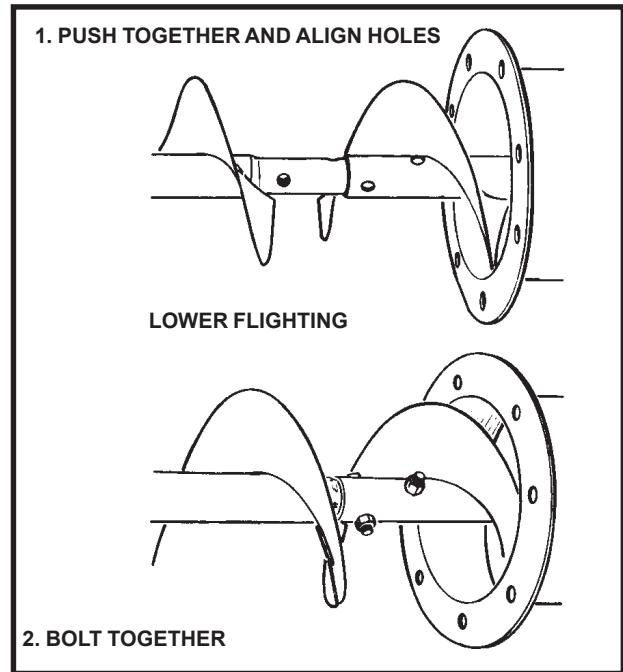

Figure No. 5
2. Slide lower flight shaft into upper flight shaft with flight ends butting together for continuous flow. Secure with two $1\frac{1}{2}$ " x $2\frac{3}{4}$ " grade 8 bolts and locknuts. (See **Figure No. 5**)